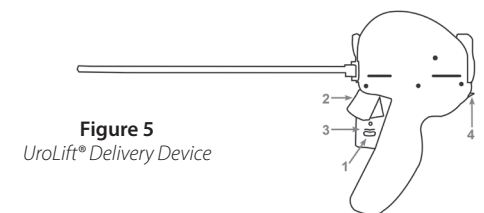

Figure 5
3.1 Unlock the Needle Safety Lock (**Step 1, Figure 5**).
3.2 Lightly depress the Trigger to deploy the needle (**Step 2, Figure 5**), then release Trigger.
3.3 After a brief pause, depress the Retraction Lever (**Step 3, Figure 5**) fully to retract needle and deploy Capsular Tab. Squeeze the Retraction Lever again to ensure completion of retract stroke.
- 3.7 Press the Urethral Release button toward the telescope (**Step 4, Figure 5**) to deploy Urethral End-Piece and cut the excess suture. After the Urethral Release button is pressed the complete UroLift® Implant has been deployed. No further Implants can be delivered using the same Delivery Device.